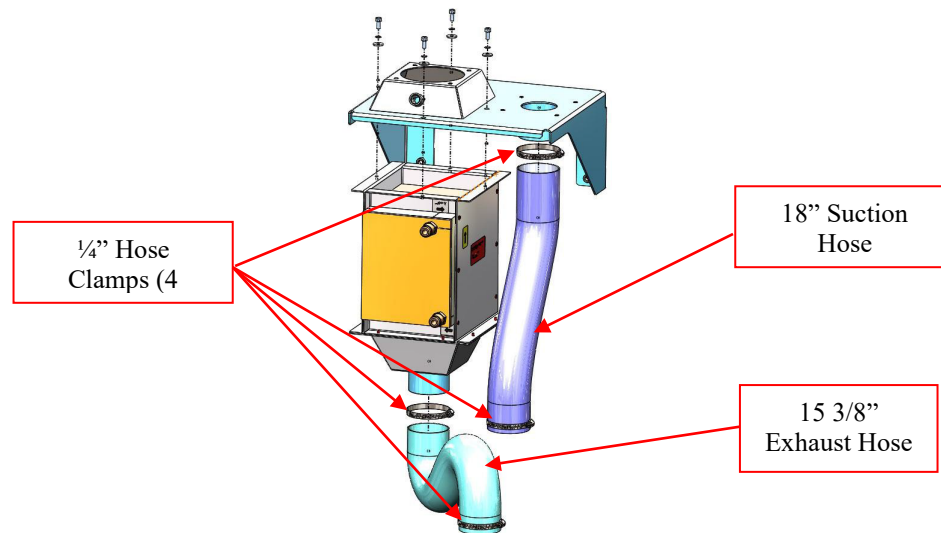

Figure 2 Blower Hose Detail
6. Using a 1/4" nut driver, remove hoses from blower (both suction and discharge, noting which one runs to the Air Heat Exchanger and which runs to the Air Heat Exchanger mounting frame (18" hose). Refer to Figure 2 on next page.
5. To identify the correct hose length, stand in front of the blower from the front of the HEC. The right hand hose is 15 3/8" whereas the left hand hose is 18". Refer to Figure 2 below.
8. Using a 1/4" nut driver, install hoses to blower (both suction and discharge, noting which one runs to the Air Heat Exchanger and which runs to the Air Heat Exchanger mounting frame (18" hose). Refer to Figure 2.